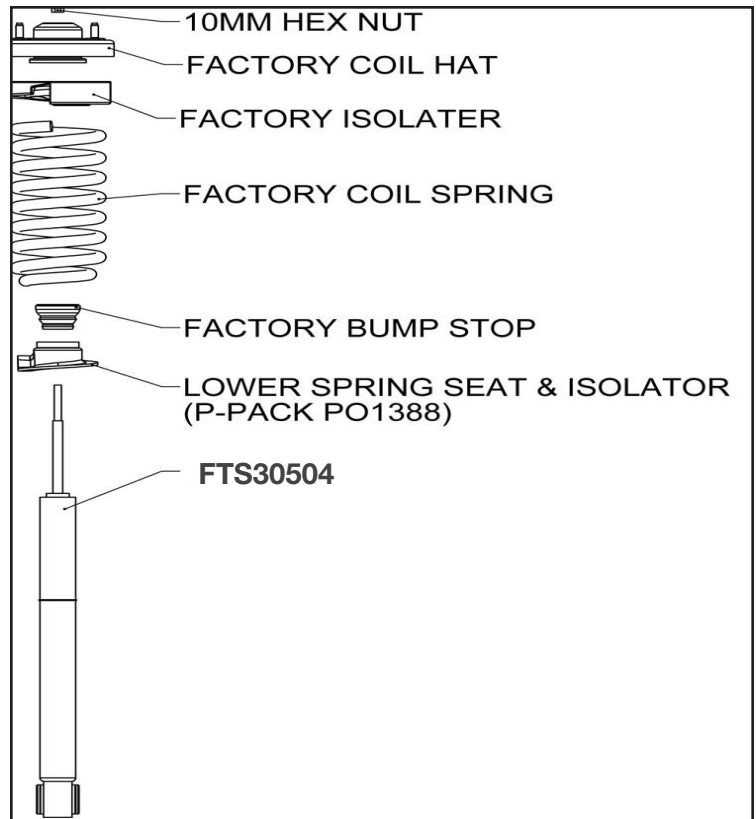

FIGURE 29 - STEP 29
29. Using a spring compressor, compress the factory spring and remove the top coilover center nut and cap. Next install the factory spring onto the new Fabtech coilover using the new lower isolator and re-using the factory top cap and hardware. **SEE FIGURE 29**